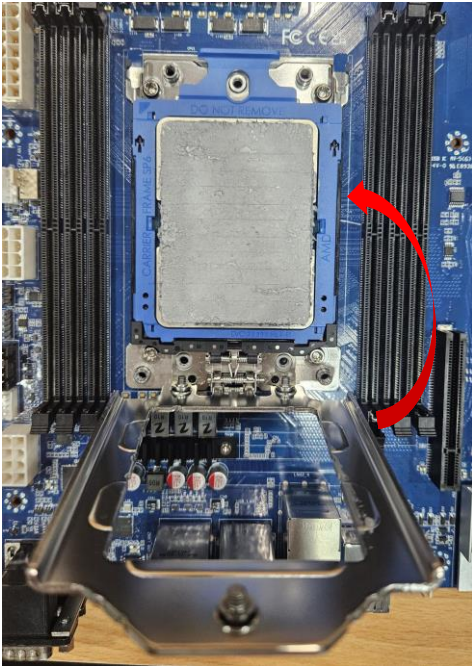

Figure 8
A. Use the finger of two hands to press the Rail Frame with the CPU package on the Stiffener Frame. Slightly press down fully, it will get stuck and won't bounce back. (Figure 8)